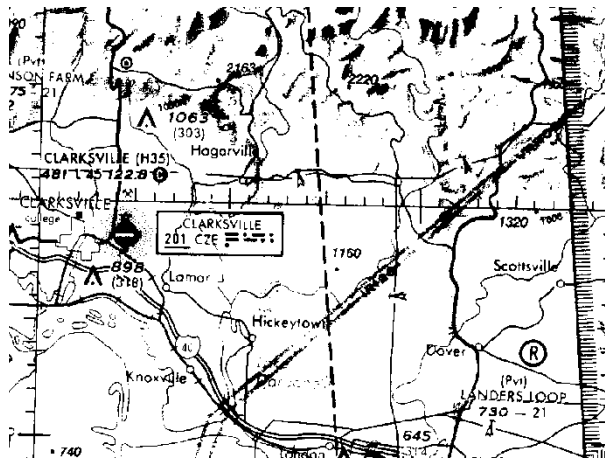

Figure 8-4
Military training routes that may be used by high-speed jet aircraft are identified by one of two designations, depending upon the flight rules under which the military operates when working within that airspace. *Instrument Routes* (IR) and *Visual Routes* (VR) are identified on sectional aeronautical charts by medium-weight solid gray lines with an alphanumeric designation. 4-digit numbers identify MTRs flown at or below 1500 feet AGL; 3-digit numbers identify those flown above 1500 feet AGL. In Figure 8-4 there are two such examples east of the Clarksville Airport symbol -- IR-120, and VR-1102.